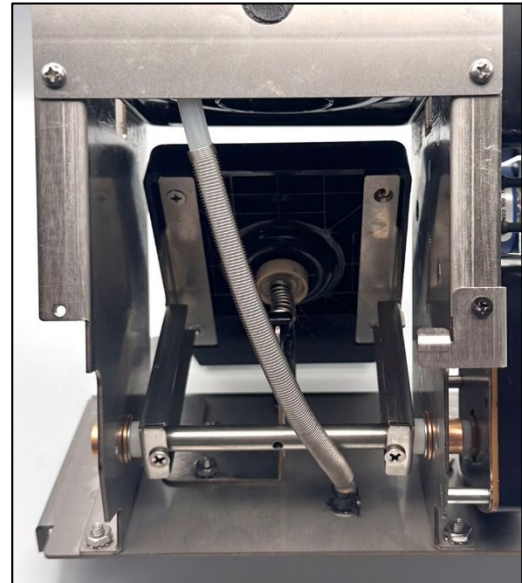

Fig. 7
5. Use hose clamp pliers to attach the clamp-side of brew tube assembly to opening in brew mech frame, ensuring that tube is positioned **OUTSIDE** of the drive shaft (Fig 7.)